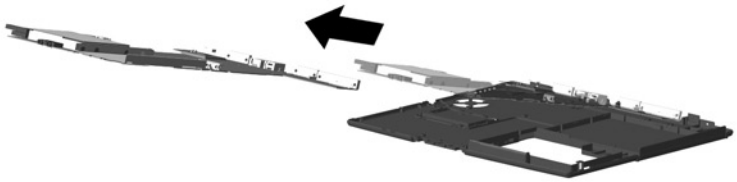

Figure 5-22. Removing the System Board
7. Slide the system board out of the base enclosure at an angle (Figure 5-22).